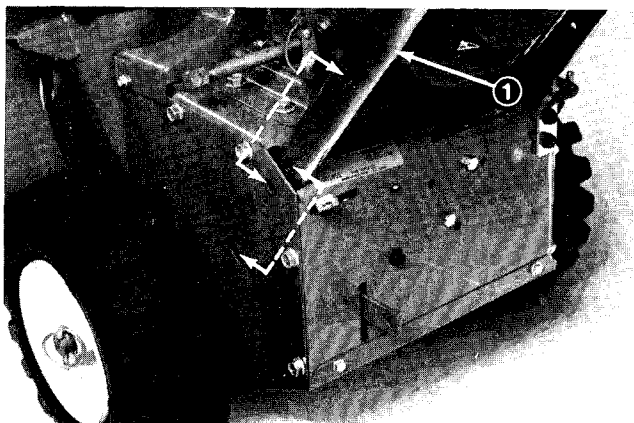

Figure 1
3. Slide handles to the inside of the side plates and line up all holes (Fig. 1).